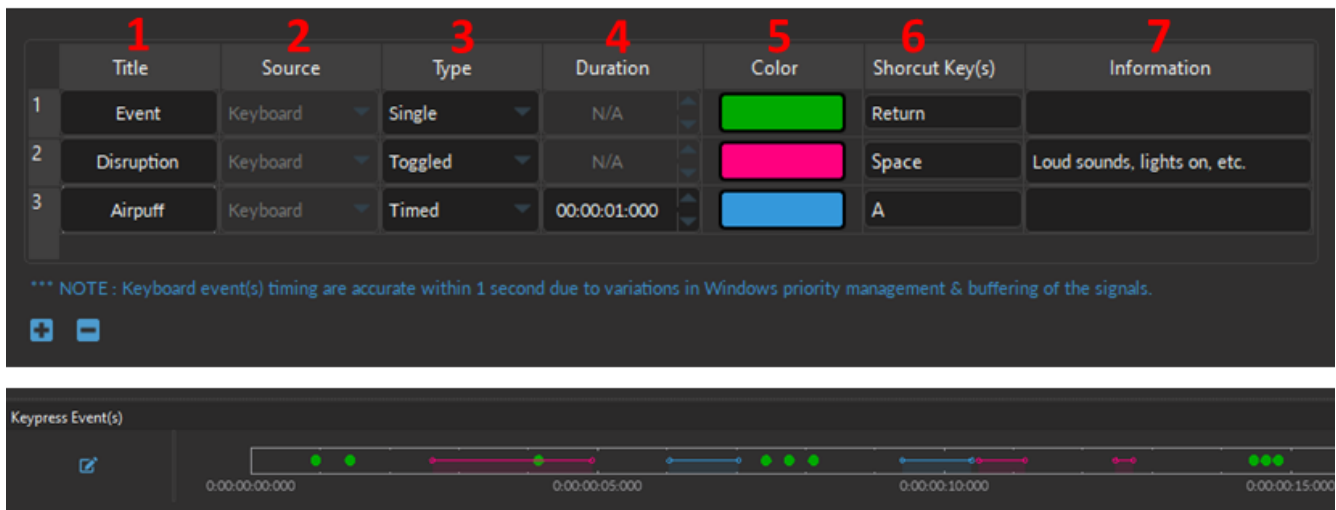

Figure 6.14: Channel(s) configuration window, KeyPress Event(s)
6. The **Shortcut Key(s)** can be any keyboard key, including space bar, enter, backspace, any letters, numbers, and special characters (*, !, ? etc.). To specify the key, click inside the *Shortcut Key(s)* cell, then press the keyboard key of choice. If a key is properly set, it will appear in the *Shortcut Key(s)* cell (as in Fig. 6.14, column 6).